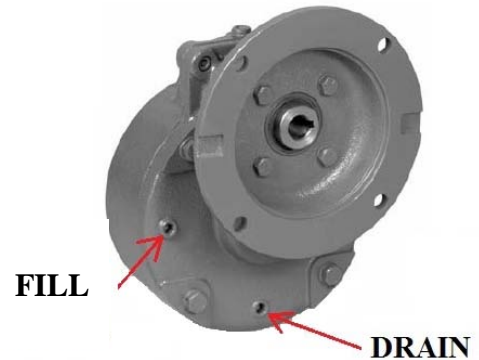

Figure 1
- B. These units are finished completely sealed as standard. The grease level should be checked by removing the full and drain plugs. The level is correct when grease exits the drain hole while pumping in the fill port (see Figure 1). Use a Grease as recommended in bulletin 05-126.